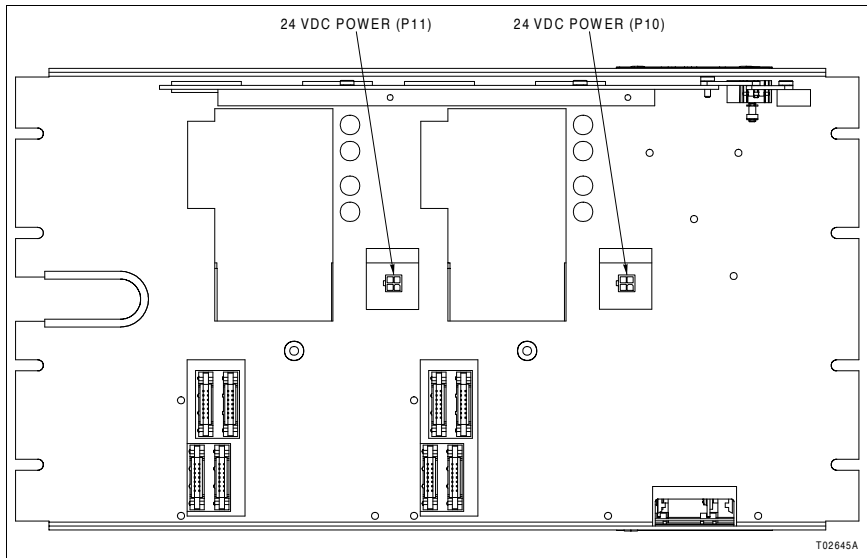

Figure PR7-1. 24 VDC Power Connectors
3. Repeat Steps 1 and 2 to connect power to the other controller module slot. Make the power cable connection to the unused P12 or P13 connector on the back of the docking station (Fig. PR7-1).